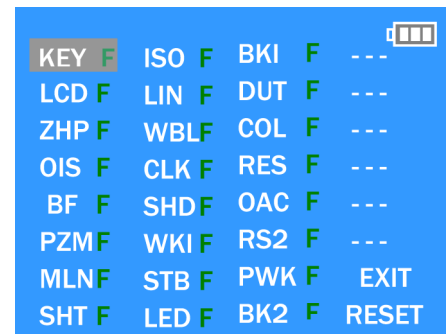

Fig.3-2
1. After pressing the “[W] side of Zoom button”, the LCD monitor displays the Flag status screen (Refer to Fig.3-2)